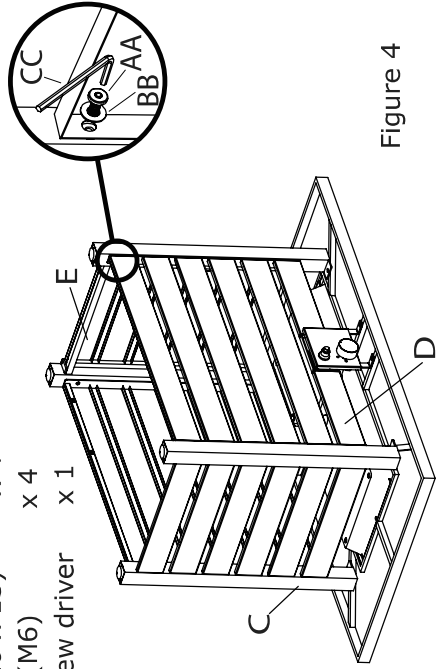

Figure 4
- Attach front panel (D) to right panel (C) and door panel (E) with bolts (AA) and washer (BB) using hex screw driver (CC), (see Figure 4).